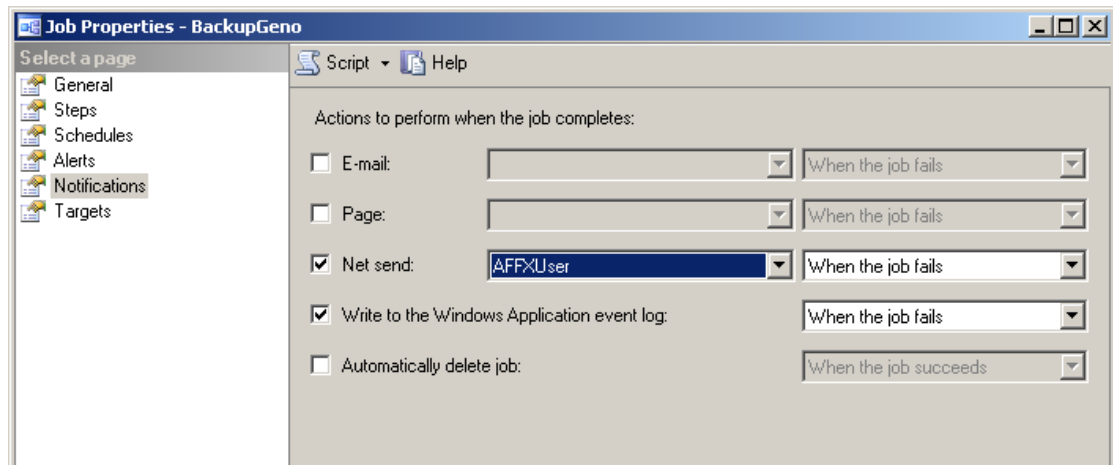

Figure 7.11 BackupGeno Properties Window
7. Check **Net send operator:** and select **AFFXUser** from the drop down box next to it (Figure 7.11).